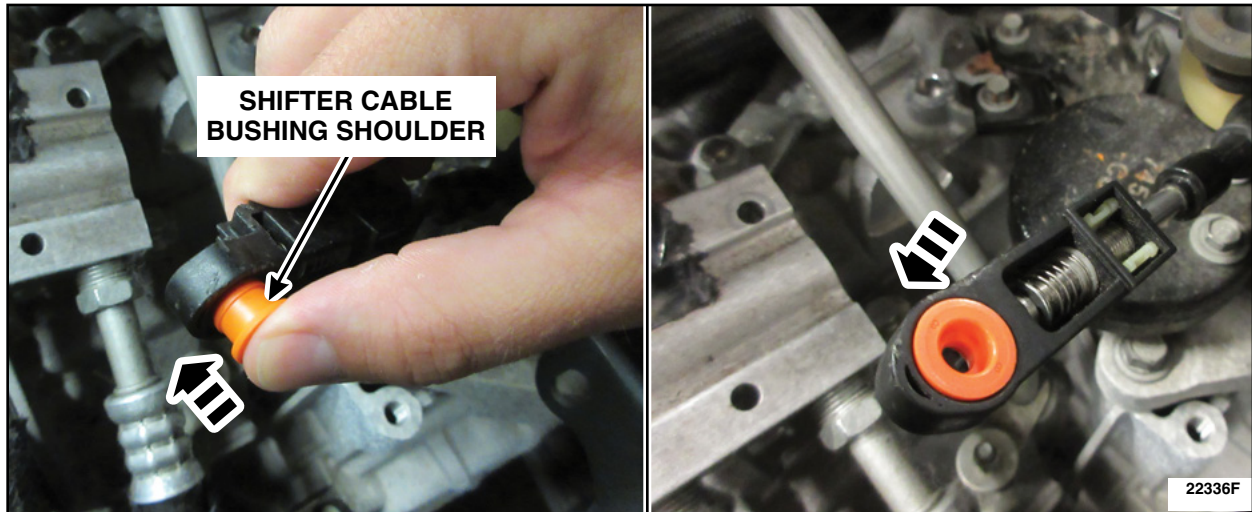

FIGURE 9
10. Using your hands only, install the *new* selector lever cable bushing. Do not use any grease to install, the bushing and cable end should be dry. See Figure 9.